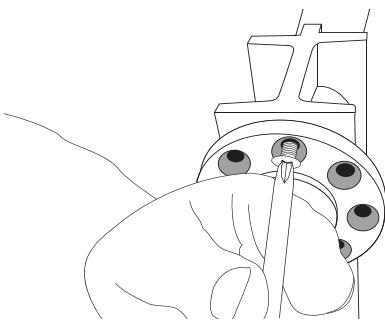

FIGURE 5
1. Unscrew and remove the adjustment plate screws (Fig. 5).